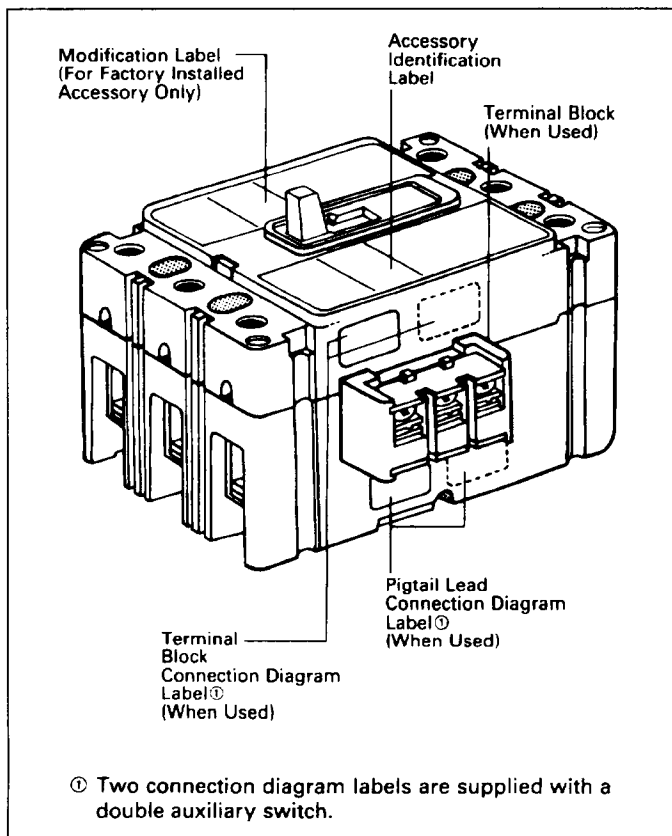

Fig. 2-7. Preferred Mounting Locations for Accessory Nameplate Labels
- 2-8. Place labels supplied with kit on circuit breaker. (See Fig. 2-7.)